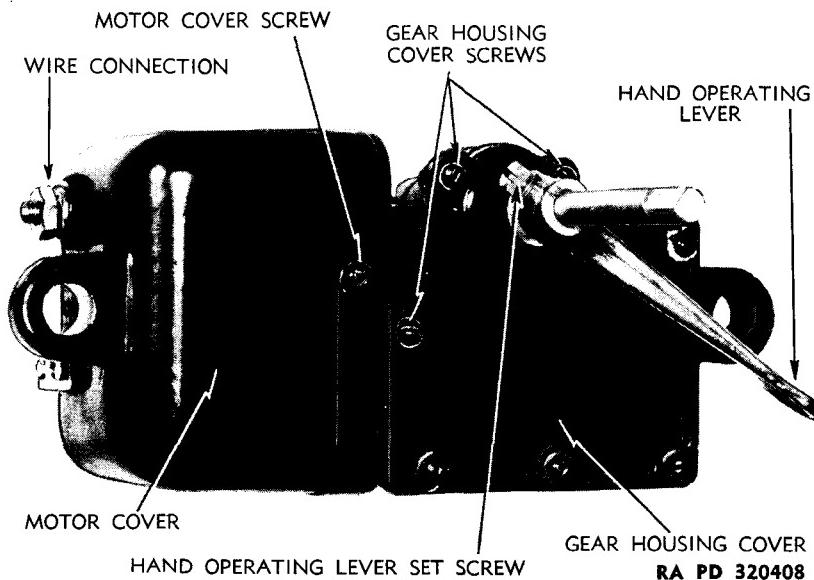

Figure 4 — Wiper Motor
a. Remove Covers (fig. 4). Remove hand-operating lever by turning squarehead screw counterclockwise and sliding lever from wiper blade arm shaft. Remove nut and lock washer from wire connecting terminal. Remove two screws from sides of motor cover and remove cover. Remove seven screws from gear housing cover, and pull cover and gaskets from shaft.